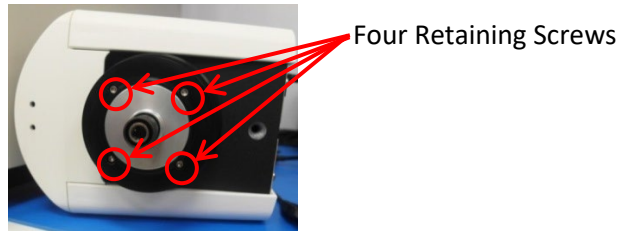

Figure 2: Head Unit Retaining Screws
1. Remove and save all four screws holding the retaining ring to the mounting collar using a $\frac{3}{32}$ " Allen wrench. See Figure 2.